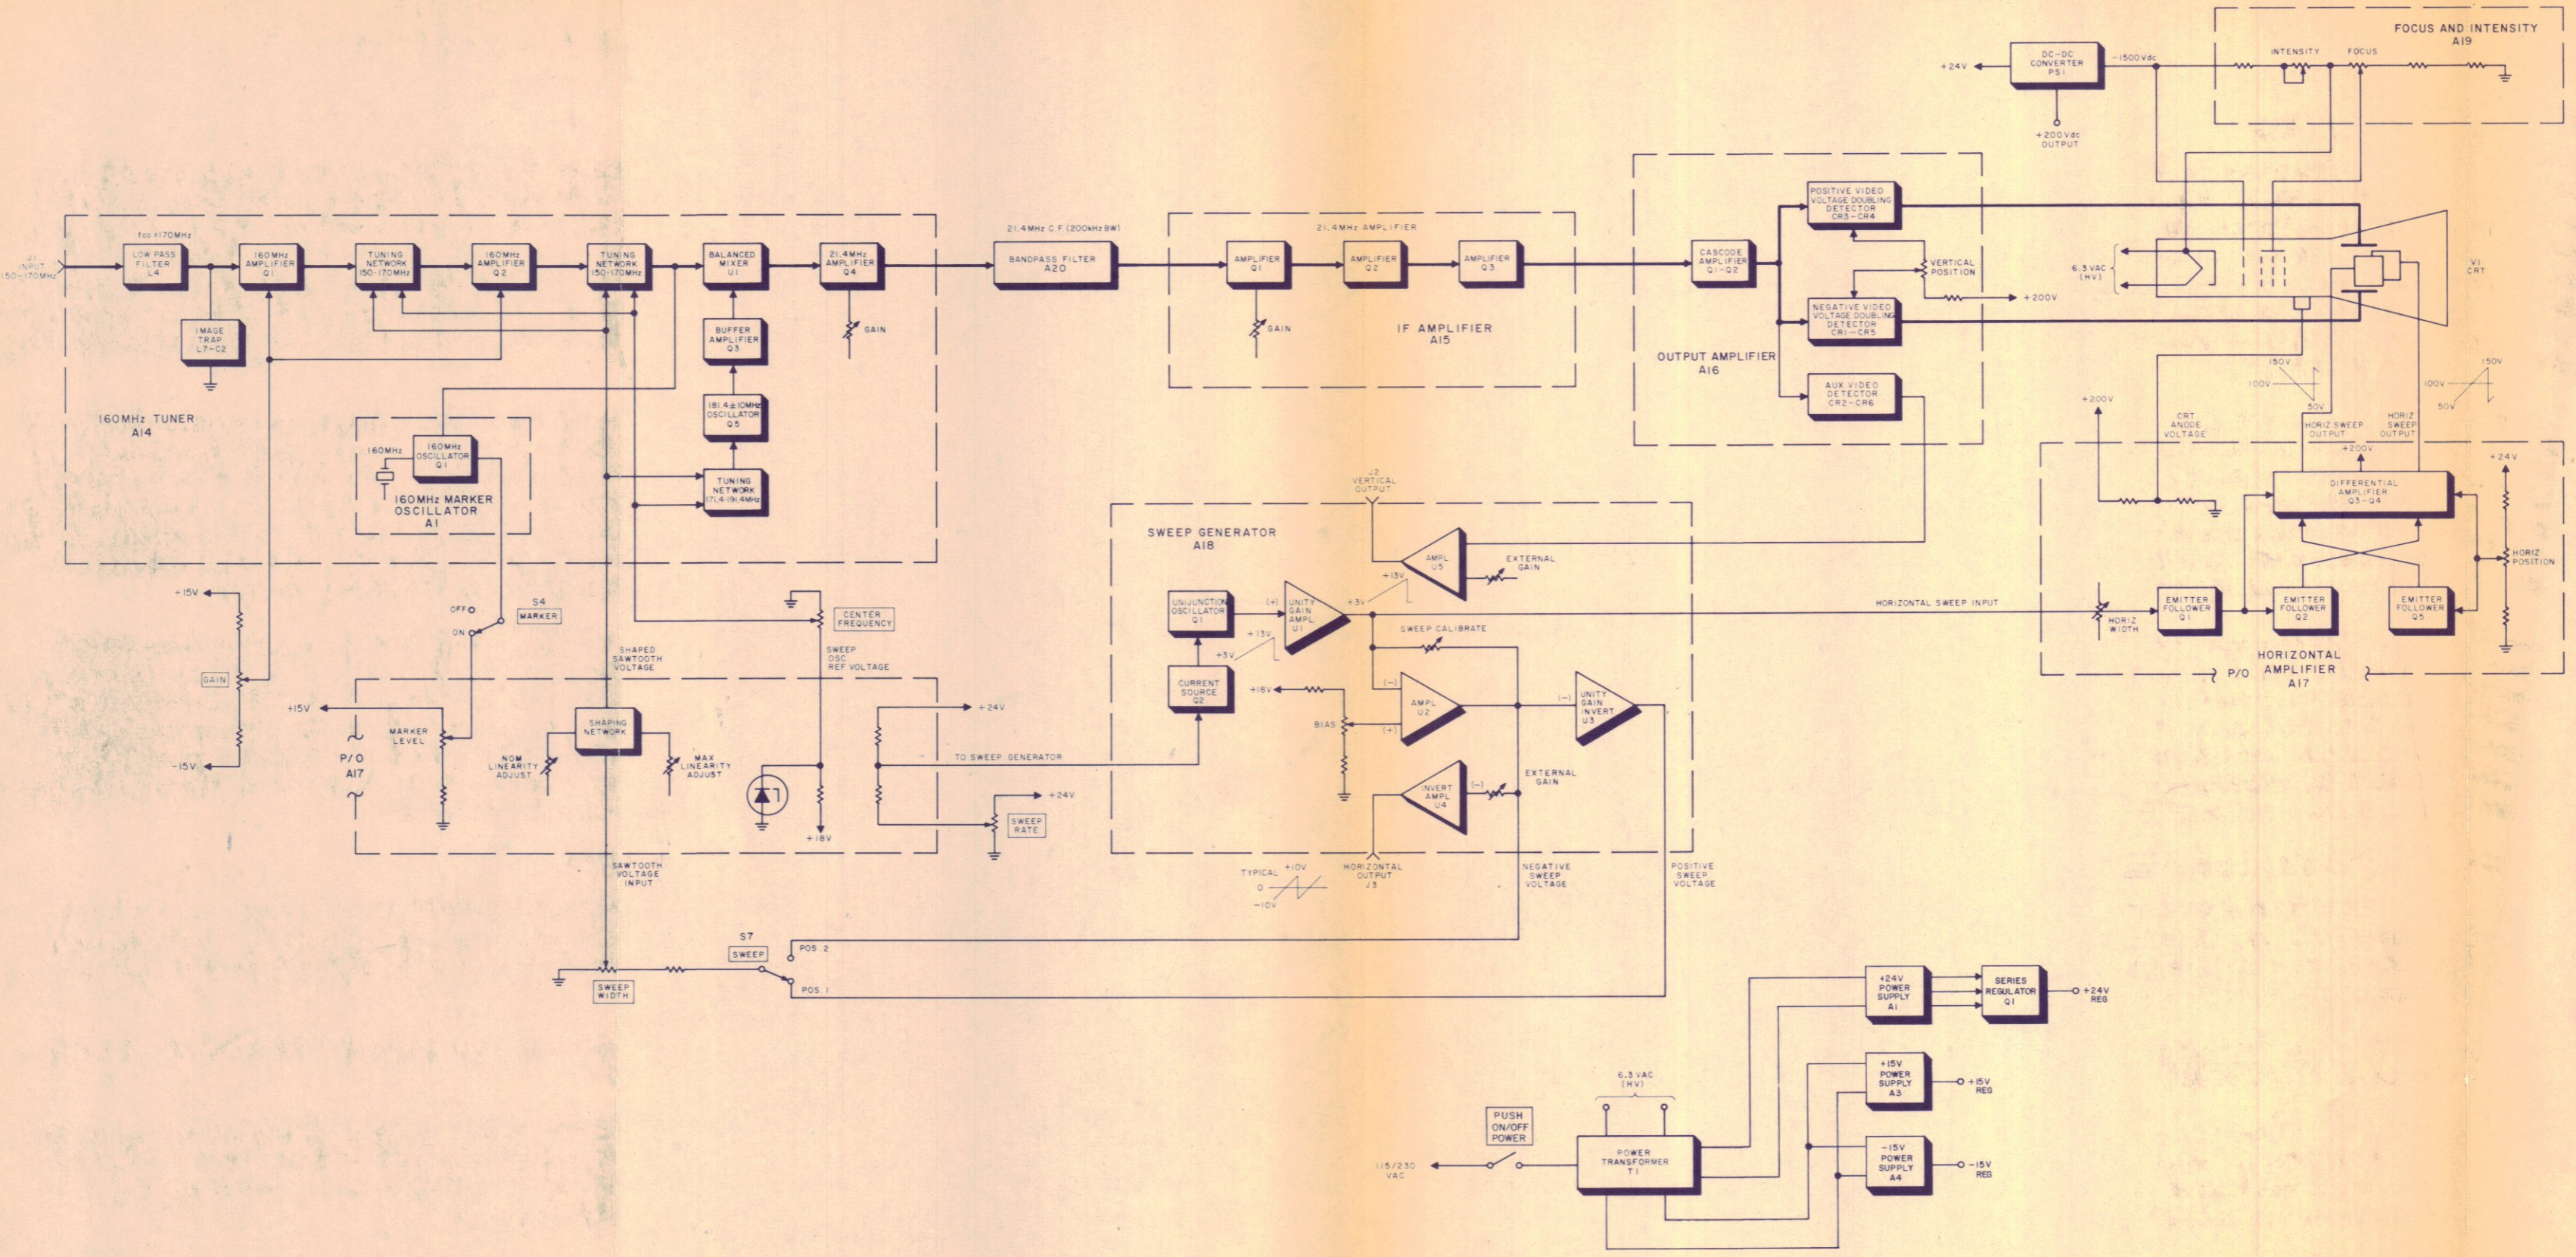

FIGURE 2-1b. TYPES DM-112 AND DM-112-1 DEMODULATORS, FUNCTIONAL BLOCK DIAGRAM
2.2.2 Signal Monitor Section. - The functional block diagram of the Signal Monitor section is provided in Figure 2-1b.